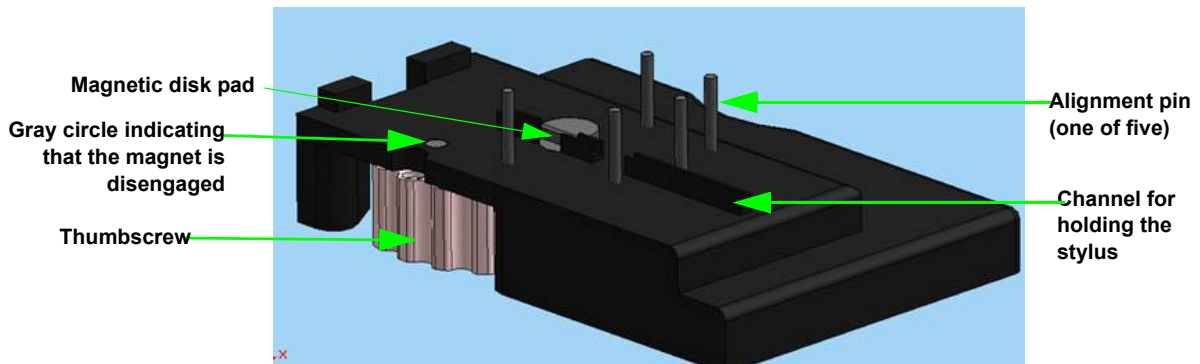

Figure 3-18: Stylus Exchange Tool with Its Magnet Disengaged
When a stylus becomes worn or you want to measure another type of sample, you must remove the currently installed stylus from the sensor head (see Figure 3-18) before replacing it with a different one.
- 2 Locate the black plastic stylus exchange tool (see Figure 3-18) and place it near the stylus case.
- 7 Rotate the thumbscrew on the stylus exchange tool so that a gray circle (NOT a green one) is visible and the magnet is NOT engaged (see Figure 3-18).
- 10 Rotate the thumbscrew on the left side of the stylus exchange tool so that a green circle becomes visible and the magnet is engaged. The magnet now pulls the stylus into the channel on the exchange tool (see Figure 3-18). Lower the exchange tool containing the stylus from the bottom of the sensor head and take it to the protective case in which the stylus was shipped (see Figure 3-15).